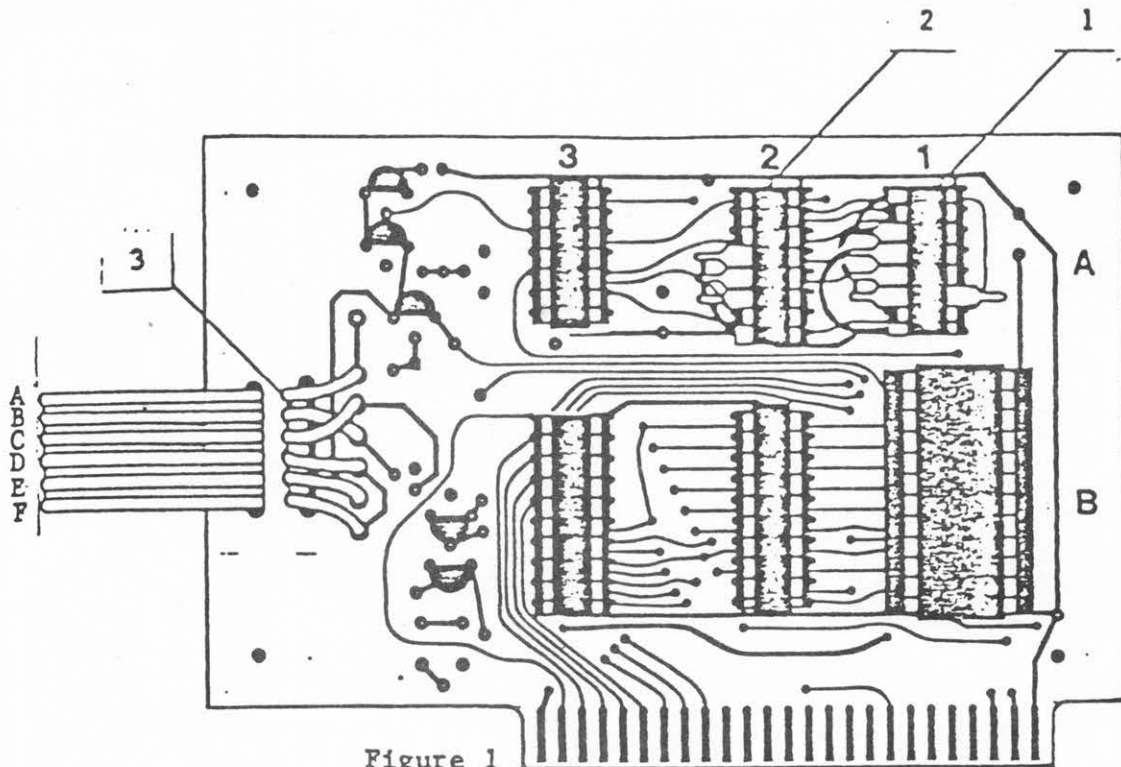

Figure 1
1. Using the chip puller, remove the two 74C161 chips in row A columns 1 (figure 1, #1) and 2 (figure 1, #2). Place the chips in conductive foam for later use of the Apple Communications Interface Card in its original configuration.
5. The six wires of the Apple Communications Interface Card's ribbon cable are soldered into six holes in the card. These six holes are labeled "A" through "F". Using a soldering iron, remove the ribbon cable's "B" wire and "C" wire (figure 1, #3) from their holes. Cross these two wires, and then solder the former "B" wire into the "C" hole, and the former "C" wire into the "B" hole.
7. On one of the 74LS161 chips, bend out pins 3, 4, 5, 6, and 11 (figure 1, #1). Looking down at the chip standing on its legs, the pin numbers increase counter-clockwise from 1 through 16, starting from the notch or pit that marks one end of the chip's upper surface. Solder a wire connecting the tips of pins 3, 5, and 6 with the top of pin 1. Solder another wire connecting the tip of pin 4 with the top of pin 8. Be careful that solder does not accumulate on the narrow part of pins 1 or 8 as these pins must be free to be inserted in their sockets without obstruction. Pin 11 will not be connected. Install this chip in the socket in row A, column 1 (figure 1, #1) with pin 1 (next to the chip's orientation notch or pit) adjacent to the circular white dot printed on the card, near one corner of the socket.
8. On the second 74LS161 chip, bend out pins 4, 5, and 6 (figure 1, #2). Solder a wire connecting the tips of pins 4, 5, and 6 with the top of pin 8. Do not leave solder on the narrow part of pin 8. Install this chip in the socket in row A, column 2 (figure 1, #2) with pin 1 (next to the chip's orientation notch or pit) adjacent to the circular white dot printed on the card, near one corner of the socket.